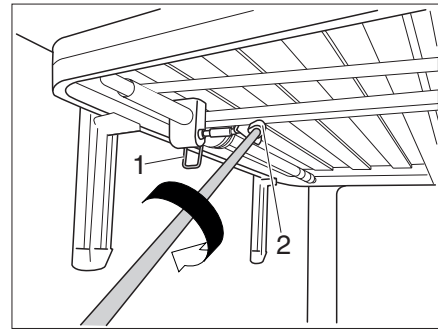

Fig. 151 Height adjustment
- Loosen the locking lever (Fig. 151,1). The bed can now be adjusted.
- Slide the crank into the magnetic square recess (Fig. 151,2). The height of the bed can now be changed.
- Pull the crank out of the square recess (Fig. 151,2) and keep it in the holder.